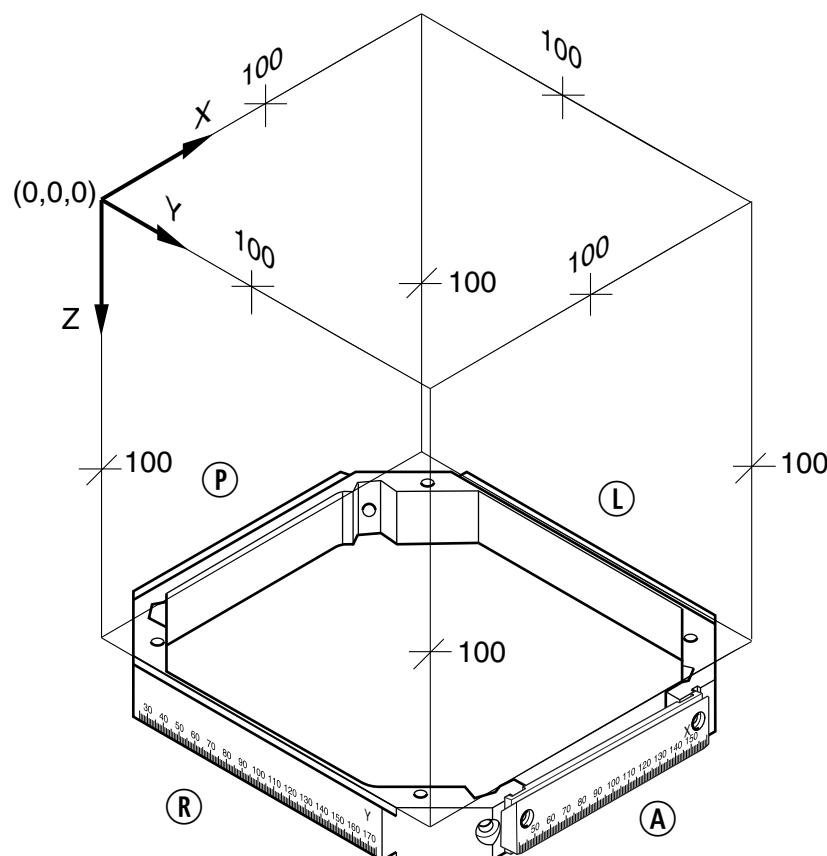

Figure 3.2 Leksell® Coordinate System
To permit accurate positioning, the coordinate frame is engraved with a rectilinear coordinate scale. The origo of Leksell® Coordinate System (where X, Y and Z are numerically zero) is located outside the coordinate frame at a point that is superior, lateral and posterior to the coordinate frame on the patient's right side. See **Figure 3.2**, which also shows the **left (L)**, **right (R)**, **posterior (P)**, and **anterior (A)** sides of the coordinate frame.